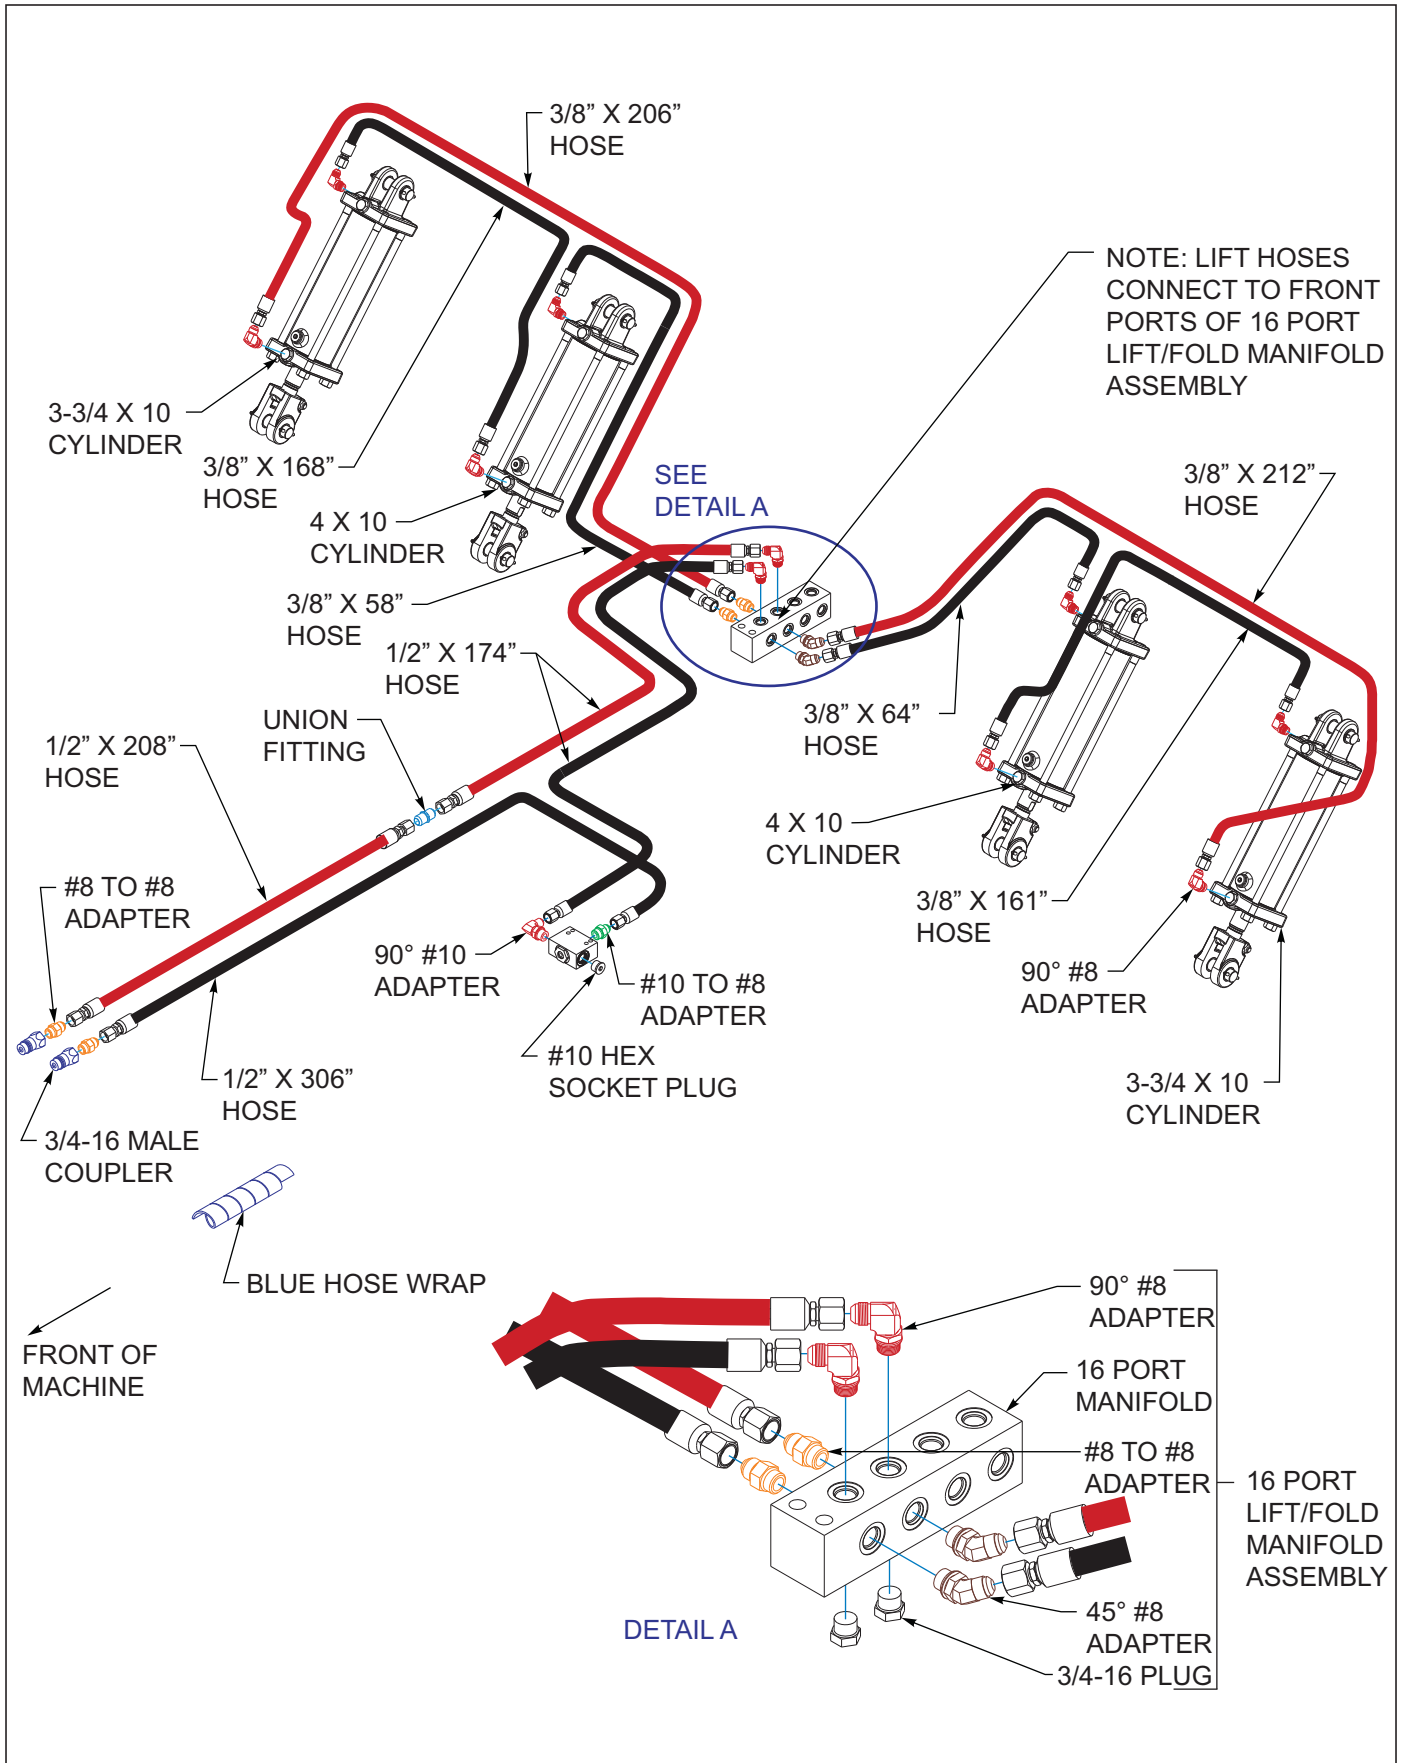

Figure 3-11: Hydraulic Lift Installation 9430FH
See Figures 3-11 through 3-15 for hydraulic cylinder fittings (factory installed and those installed during setup.)
Refer to Figures 3-11 through 3-13 for lift hydraulic installation.
4. Install 90 degree regular adapter fittings in both ends of all lift cylinders (4 x 10, 3-3/4 x 10, and 3-1/2 x 10) **See Figures 3-11**. Install base fitting in side port, with both fittings pointing upward.
9. Install lift system hoses per **Figure 3-11**. Wrap lift system hoses with blue hose wrap.